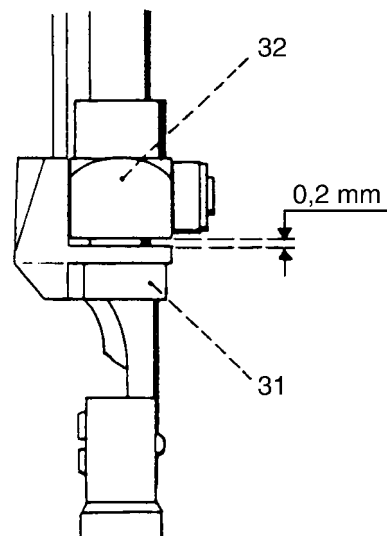

Fig. 14
- Set guide piece 31 at a clearance of 0.2 mm from cross head 32 (fig. 14).